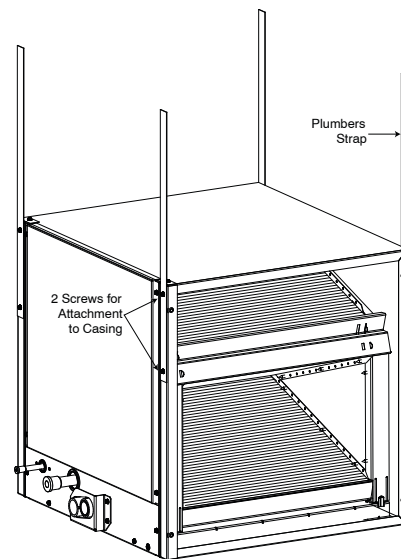

Fig. 7 – Suspension with Plumbers Strap
2. Attach metal plumbers strap to four corners of coil casing (see Fig. 7).
2. Attach metal plumbers strap to four corners of coil casing. See Fig. 7.